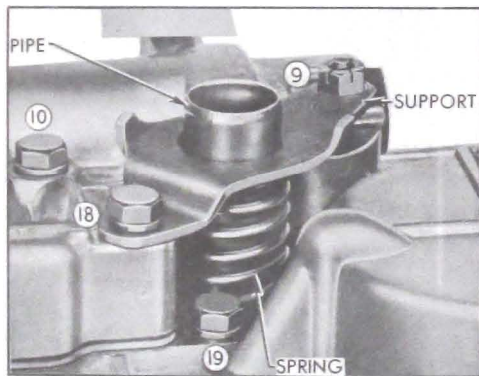

Figure 5-100—Oil Screen Suction Pipe Installation
6. Remove bolt No. 18 and nut No. 9 and install cork gasket, suction pipe, retaining spring and support as shown in figure 5-100. Tighten bolt and nut to 11-15 ft. lbs. torque.